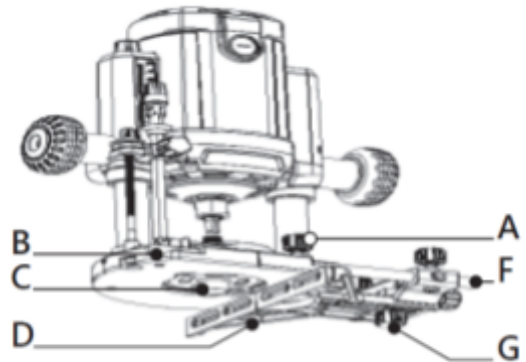

Figure 3
- A. Insert the **fence guides F** (Fig. 3) into the grooves on the router's **baseplate B**.